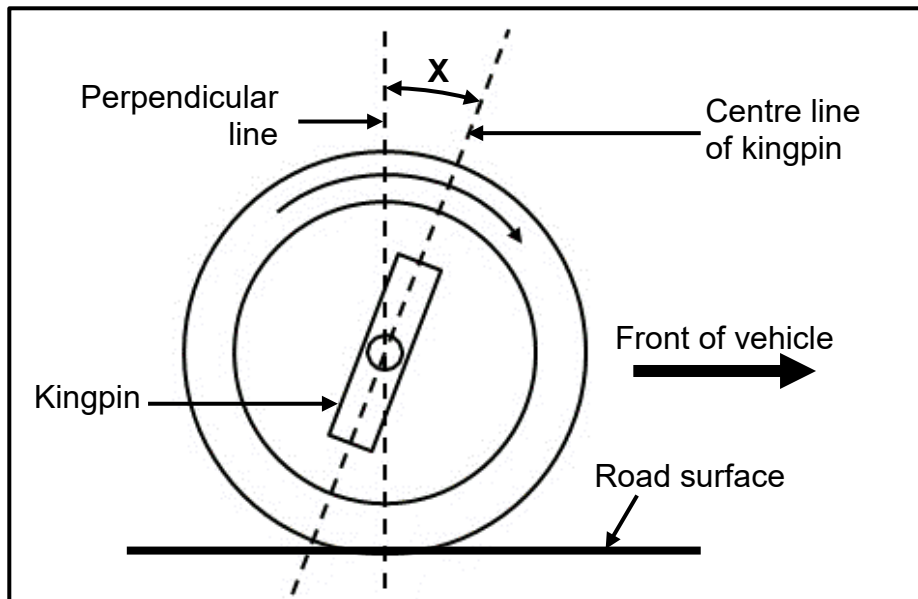

FIGURE 4.12
- D Brings the torque converter to a stop (1)
4.12 Identify the wheel alignment angle 'X' as shown in FIGURE 4.12 below.